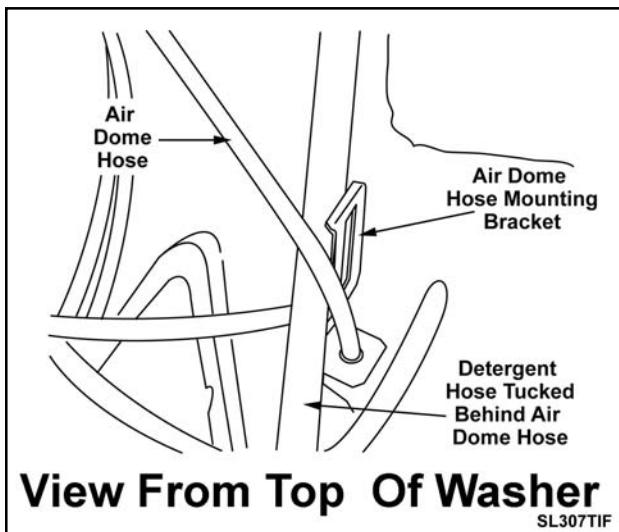

Figure 8-9
- Follow the detergent hose vertically up to the air dome hose mounting bracket. The detergent hose is tucked behind the air dome hose. *(See Figure 8-9)*